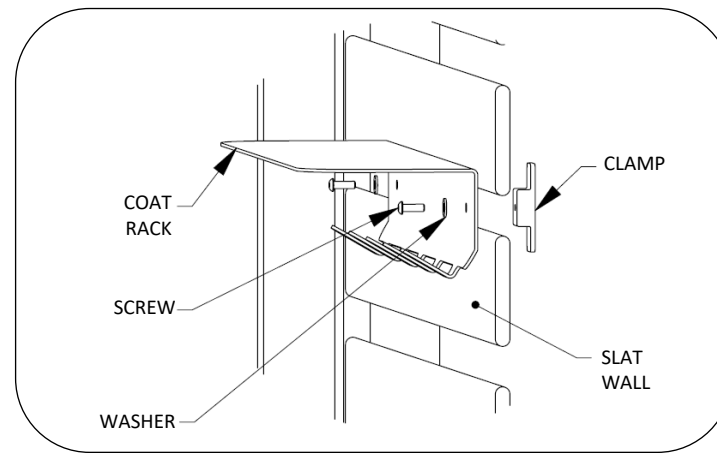

Fig. 1 – INSTALL COAT RACK
1. Install coat rack using provided clamp, screw and washer, see Fig. 1.